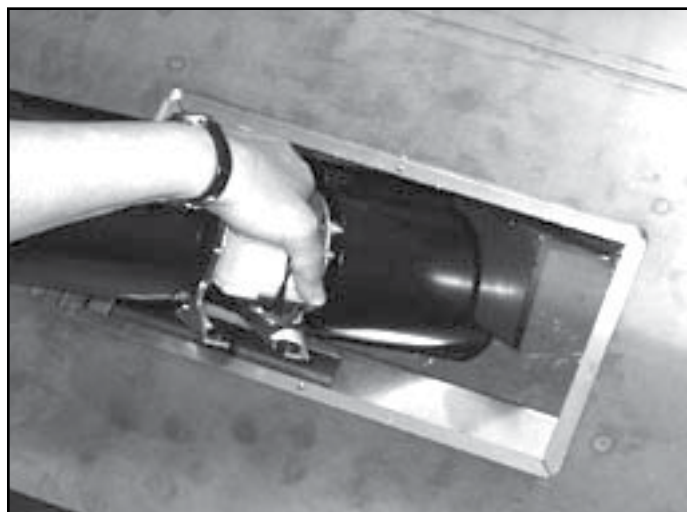

Figure 4.10 Installing Fans
- Before installing the fan, make sure the grommets are tightly in place. Insert the right fan and place over the two locating pins. Repeat for other fan. Figure 4.10